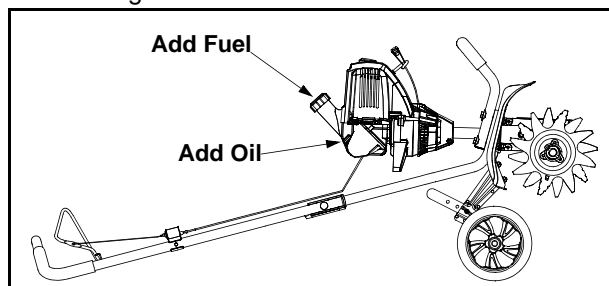

Figure 3
- **When adding oil, the unit must be laid back in the horizontal position on a flat surface with the upper handle touching the ground.** See Figure 3.